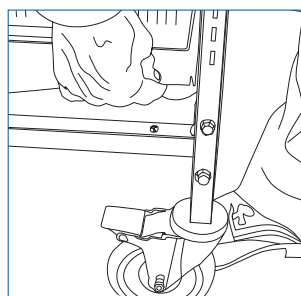

Fig. 5
1. Attached the bottom shelf liner or "insert" to the cross bars by using the provided glue dots (Fig.5)